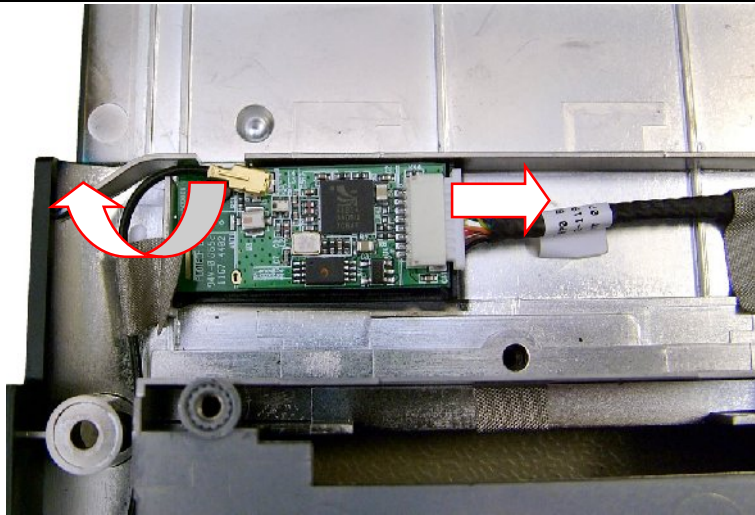

Fig. 33 Disconnect Bluetooth antenna and cable.
1. Disconnect the antenna from the Bluetooth module (see Fig. 33).